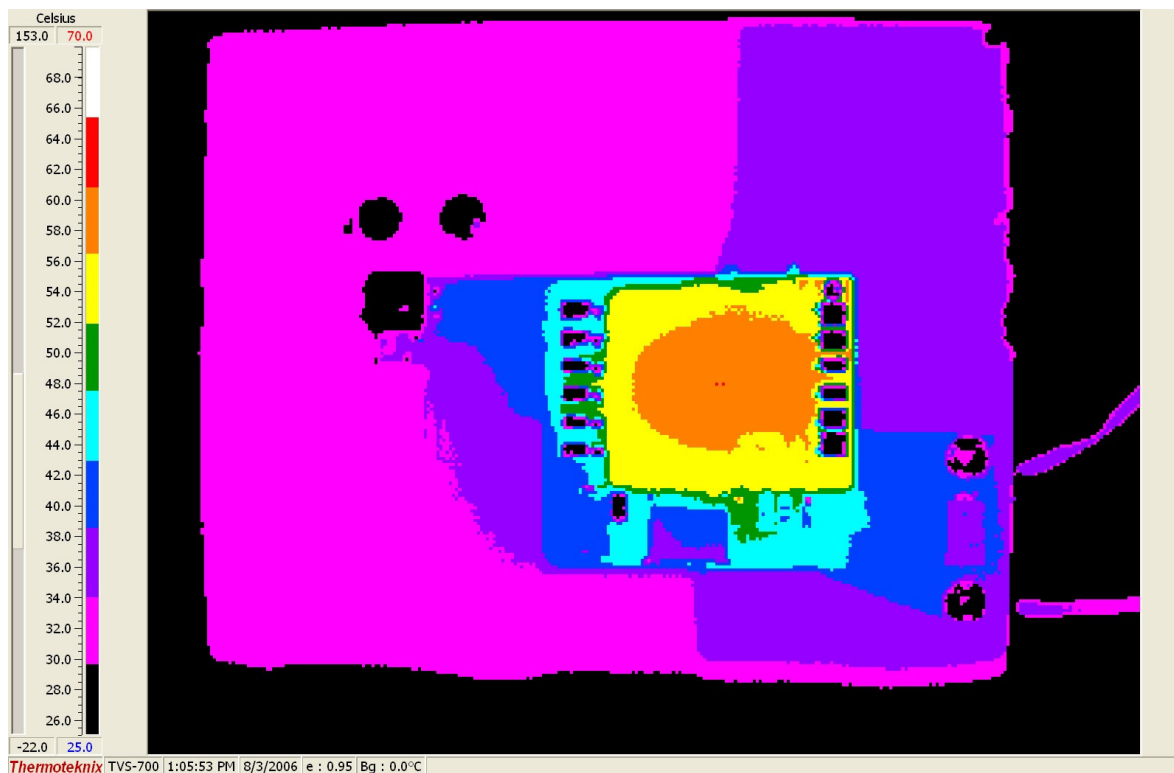

Figure 9. Temp Data (48Vin, 8A, no airflow – front)
The LT3825 controller exhibits a self-starting capability. When an input voltage is applied, a trickle charge resistor, R8, charges C10 (See Figure 9) to power V_{CC}. Then, the IC begins a controlled soft-start of the output voltage. As this voltage begins to rise, V_{CC} power is quickly taken over by T1, D2, and R7. When the soft-start period is over, the LT3825 then regulates output voltage by observing the pulses across the auxiliary winding of T1 during the flyback time. The Primary Gate drive (PG) and Synchronous Gate (SG) drive is then Pulse Width Modulated (PWM) in